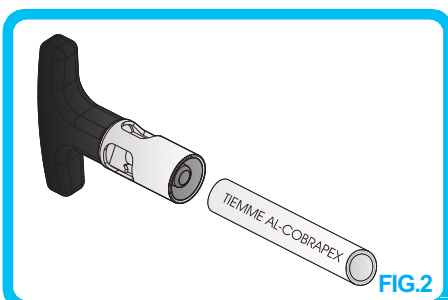

FIG.2
- Then, trim and calibrate the tube by using the tool indicated in fig. 2. Insert the gauge into the pipe, then alternately turn it in a clockwise and in a counter-clockwise direction.